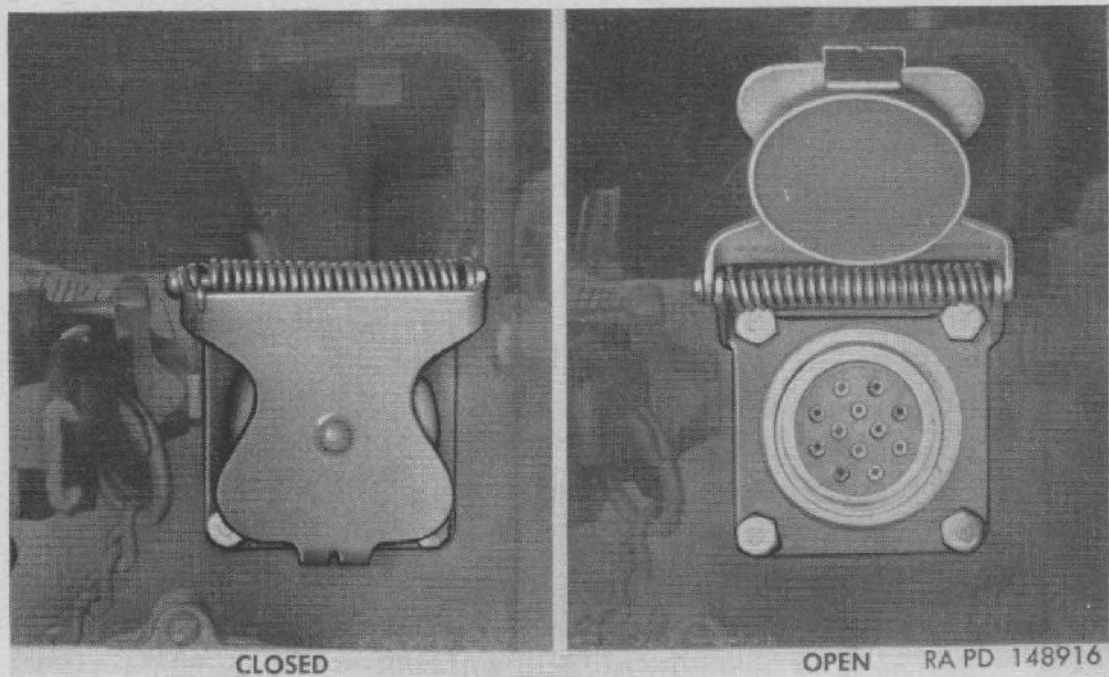

Figure 15. Trailer light receptacle.
d. TRAILER RECEPTACLE (fig. 15). The trailer light receptacle at left rear of frame is interconnected with mainlight switch. The main light switch positions control blackout and service lights on trailer in same manner as controlled on truck. Clip on receptacle cover holds trailer harness plug in place.